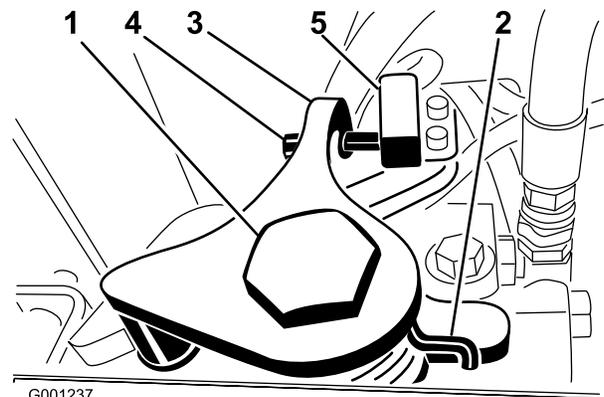

Figure 57
3. Loosen the retaining screw on the opposite side of the traction adjustment cam (Figure 57).
7. Adjust the screw on the neutral return arm (Figure 57) until the gap between the end of the screw and the switch contact is .090–.120 inch.